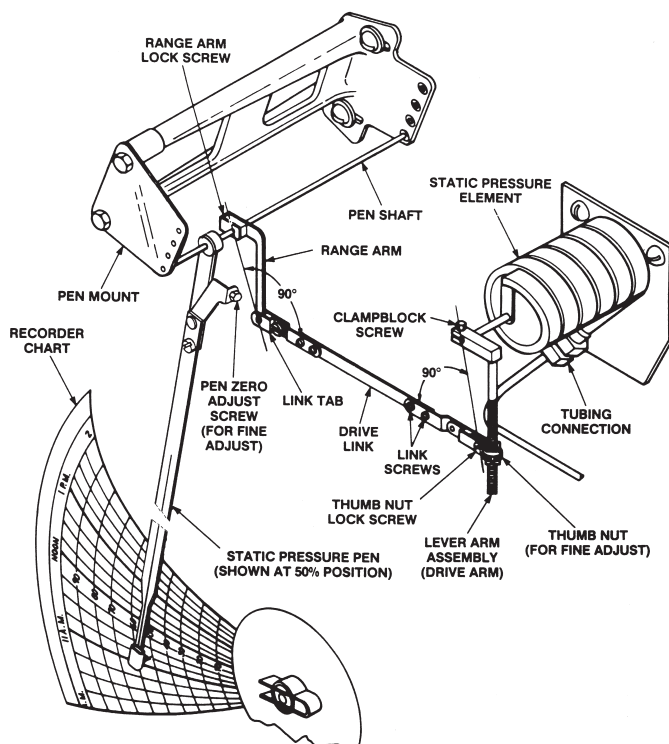

Figure 4.1—Static pressure pen calibration
- a. Apply 50% static pressure, center the thumb nut on the drive arm, and arrange the static linkage as illustrated in Figure 4.1.
4. Disconnect the tubing from the static pressure element at the tubing connection (refer to Figure 4.1—Static pressure pen calibration on page 15).